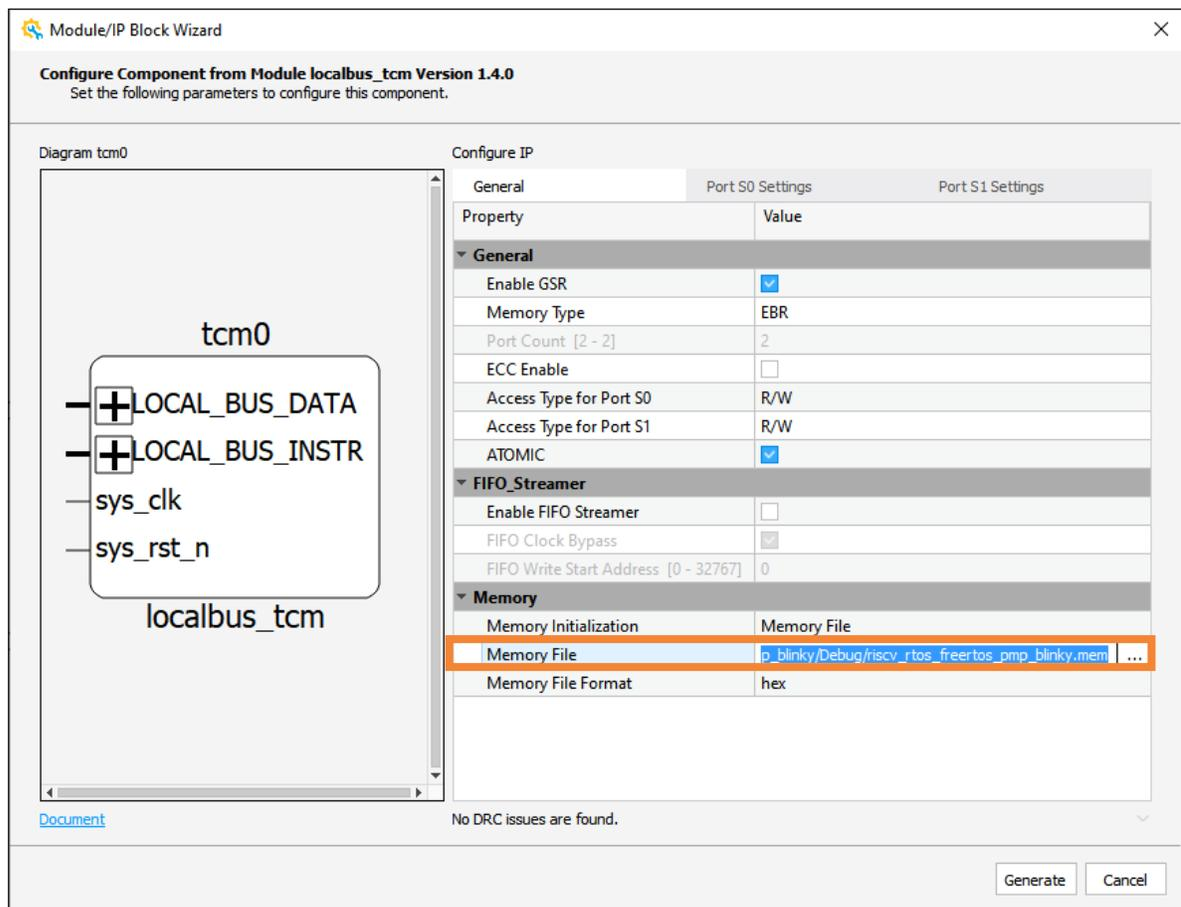

Figure E.1. Set Memory Initialization
2. Set Memory Initialization file (Figure E.1). Use the C project memory file. Refer to Appendix A on how to create memory files.